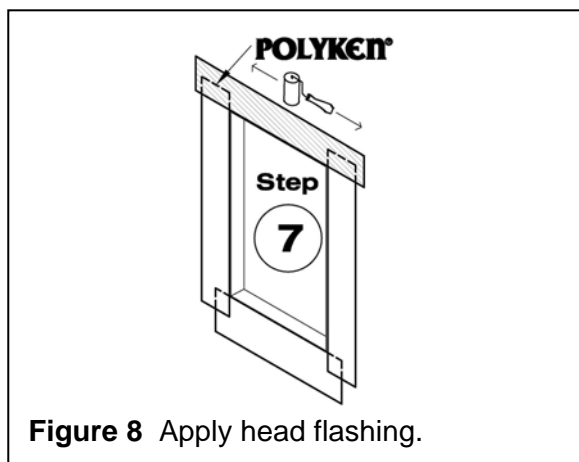

Figure 8 Apply head flashing.
Step 7. Precut Polyken® or Nashua® head flashing tape to extend a minimum of 6” beyond the jambs of the rough opening. Peel off release liner and adhere Polyken® or Nashua® membrane over window fin (and optional preformed head flashing) (see Figure 8).